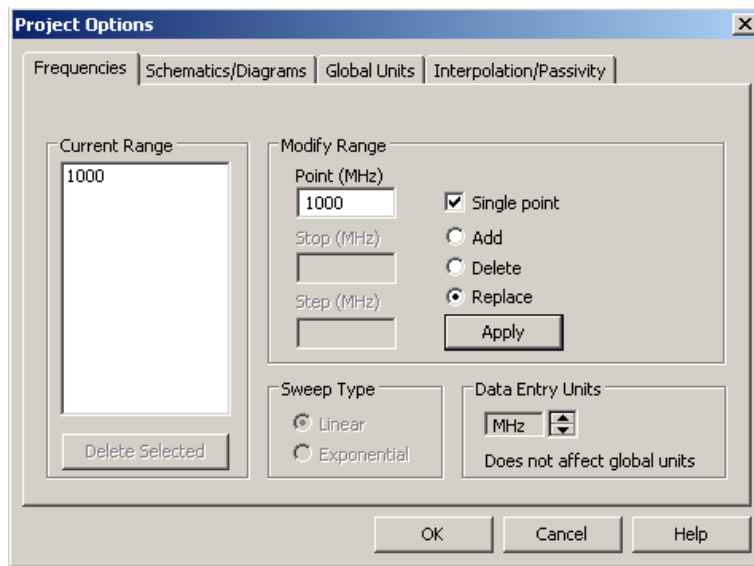

Figure 5.4: Chart 3 : Project Frequencies
- Ensure your 'frequencies' tab is as shown in figure 5.4.